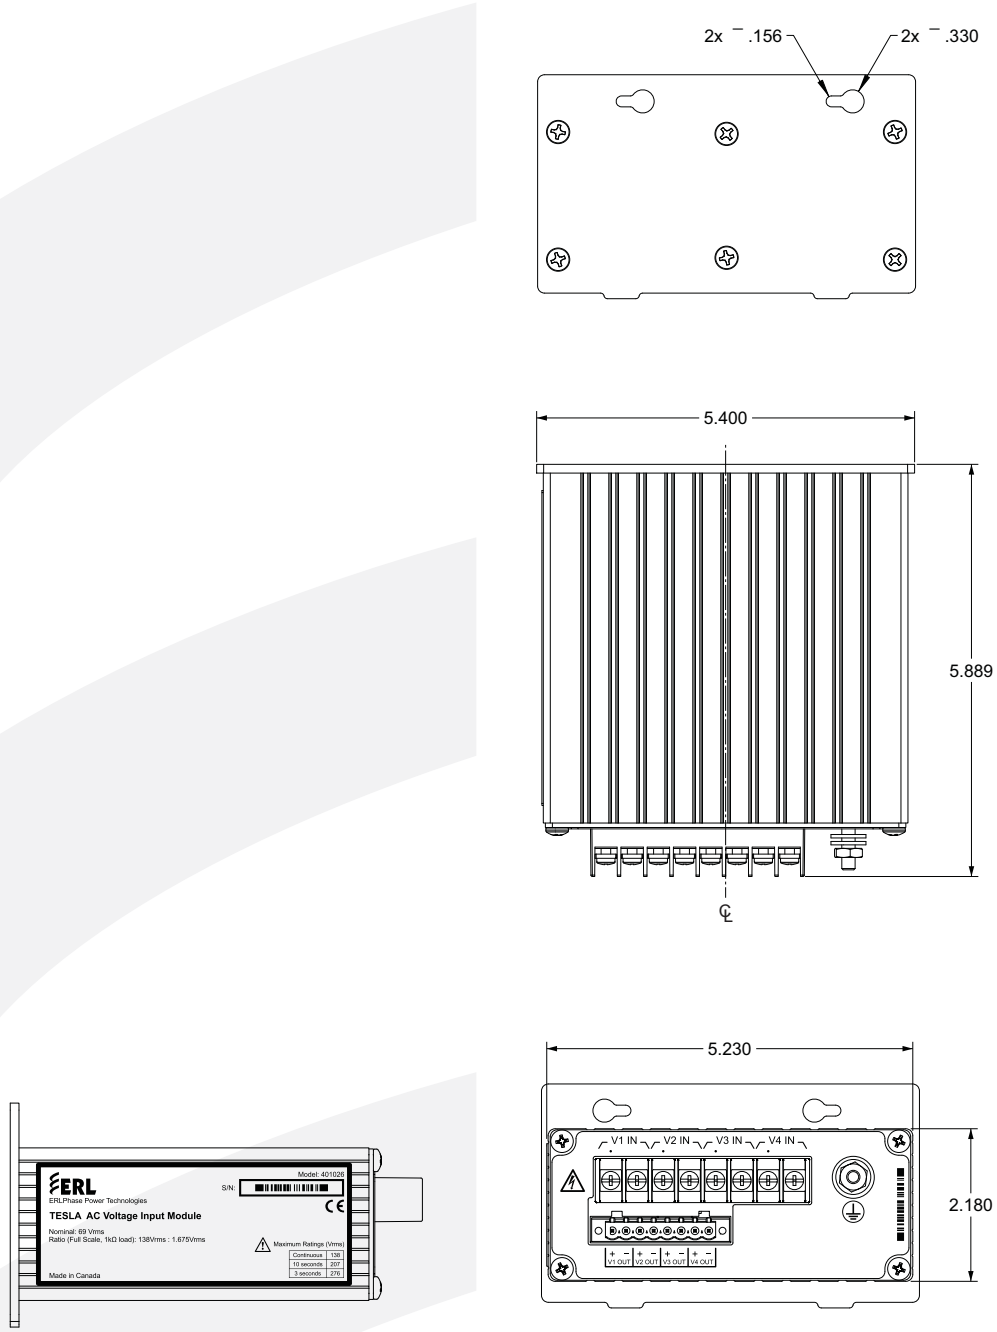

Figure F3: Part No 114258 4 Channel AC Voltage Input Module – Rack Mount
- Part No 114258 – Rack mount – Figure F3